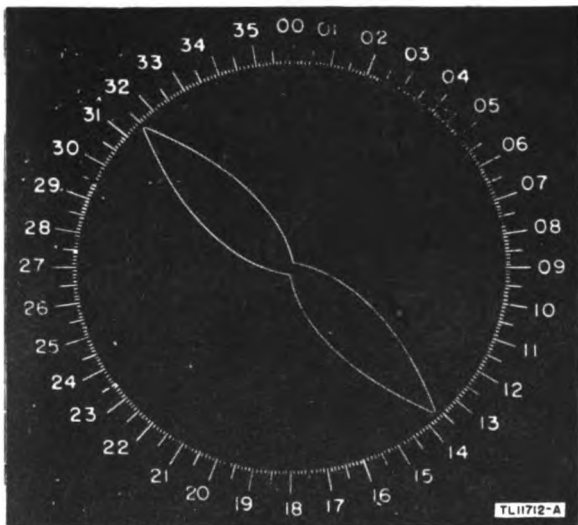
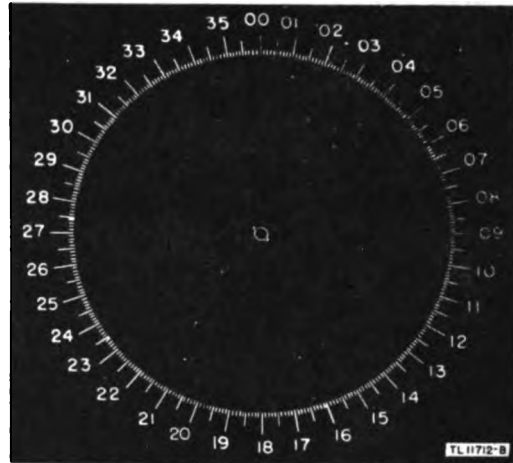

Figure 125. Pattern bent and center points displaced due to residual magnetism in the rotating assembly.
Figure 126. With AMPLIFIER switch OFF small circle instead of a dot shows residual magnetism.
(1) Set the equipment in operation (section IV) and tune in a strong signal, preferably continuous wave or one having a minimum of modulation, so as to insure a clear, steady twin-leaf pattern.
(2) If the centers of the twin-leaf trace are offset from one another as in figure 125 some part of the rotating assembly has residual magnetism. The pattern may also be slightly bent as in figure 126.
(3) As a further check turn the AMPLIFIER switch OFF. The presence of a small circular trace as shown in figure 126 instead of a dot also indicates residual magnetism in the rotating assembly.
(4) Turn the AMPLIFIER switch ON. Turn the receiver OFF-STANDBY-ON switch OFF. If the circular trace appears elliptical or has bulges or depressions, some of the studs, or fixed portions of the indicator, around the rotating assembly are magnetized sufficiently